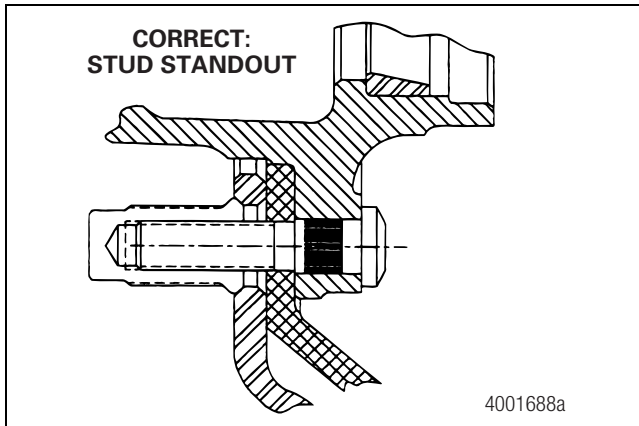

Figure 13.35
- A. Figure 13.35 shows correct standout.